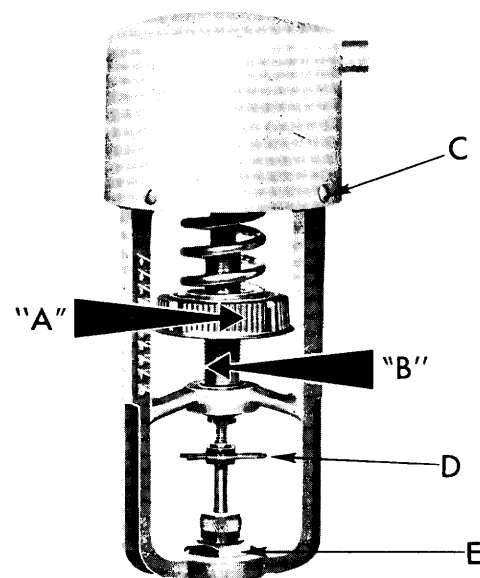

Fig. 5
To RAISE pressure setting, turn adjustment wheel to RIGHT (see arrow "A," Fig. 5).
To LOWER pressure setting, turn adjustment wheel to LEFT (see arrow "B," Fig. 5).
1. Remove lock pin "D" (Fig. 5). (Do not disturb locknut connecting regulator stem to connector.)
2. Remove locknut "E" (Fig. 5) and lift regulator frame off valve body.
1. Turn adjusting wheel to left (see arrow B, Fig. 5) until adjusting wheel is all the way down.
2. Remove screws "C" (Fig. 5) and lift off element.